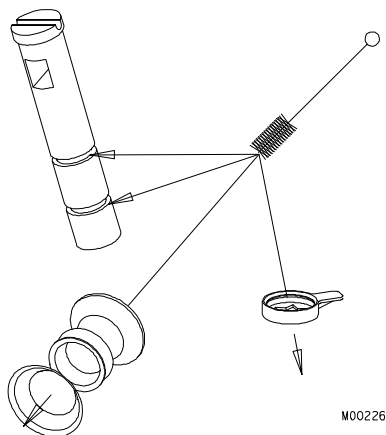

Figure 6-7 Clean shaft seal and plunger
- c. The shaft cup seal, washer, and plunger O-ring grooves (figure 6-7).